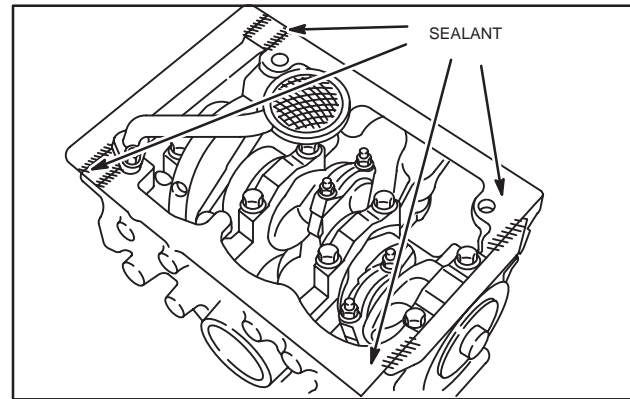

Fig. 19 – Installing Oil Pan
- Install oil pan with new gasket, Fig. 19.